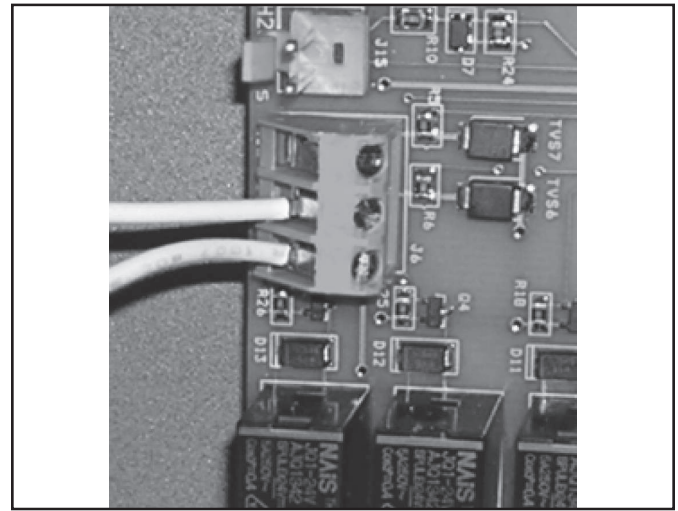

Figure 10b. AquaLink RS or Remote TSTAT Connection (2-Wire Connection)
4. Connect the wiring from the pool/spa control system to the heat pump remote control terminal (See Figure 10b).